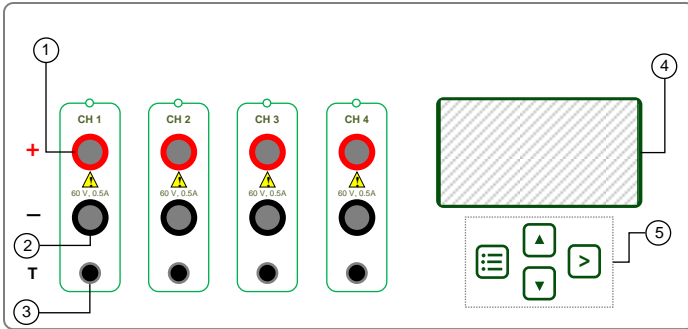
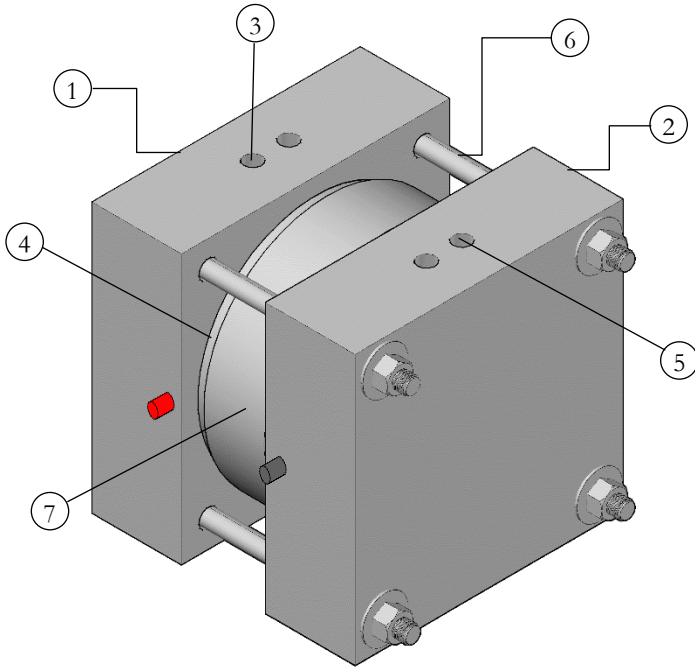

Figure 2: Front Panel View
Figure 4: Assembled Test Cell
Giatic Perma2™ has two main components: A measuring device (Fig. 2, and 3), and four concrete sample cells (Fig. 4). The measuring device can be used as a stand-alone equipment to perform the tests. It can also be connected to a personal computer (PC) using the USB connection port. The Data Monitor software provided in the package controls the device and also records the measurement data. In this section, the key functions of these components are described.
The front panel of the measuring device includes channel ports (see Fig. 2 Items 1, 2 and 3), Display, and the control keypad. The test cells are connected to the measuring device using the cables included in the package.